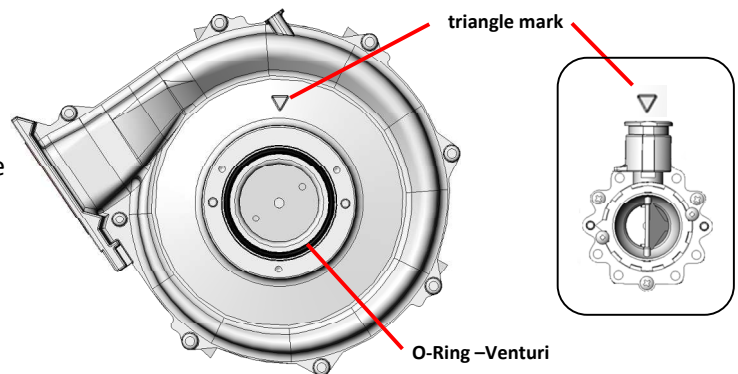

Figure 5
- 11) Replace the O-ring –Venturi to new one. Make sure that the O-Ring is correctly in place. (Figure 5)
Install the new Venturi so that the orifice connection in the direction of the triangle mark. (Figure 5)